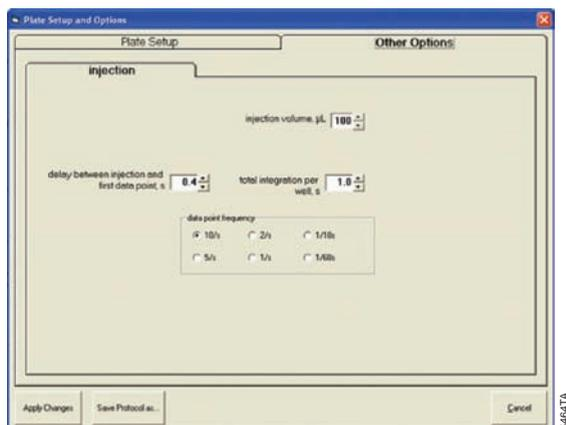

Figure 13. Plate Setup and Options window.
3. Select the “Other Options” tab to adjust the frequency of data point collection as well as the number of total measurements per well (Figure 13).